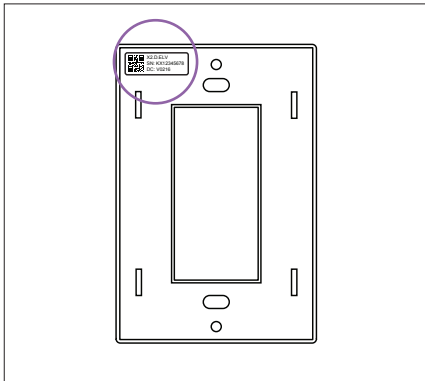

fig. 15
9. Remove Serial Number Sticker from sheet and affix it to the back of the Wall Plate (see figure 15).